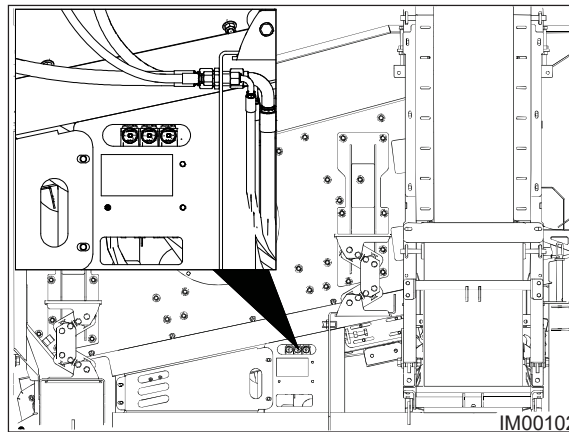

Fig: 7.8 - Control Levers
4. Proceed to the control levers located on the left-hand side of the machine (Fig: 7.8).